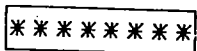
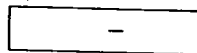

Fig. 38
Fig. 39
N.B. 1. If no keys were operated for more than 10 seconds after the power is ON, display of Fig. 38 is replaced by that of Fig. 39.